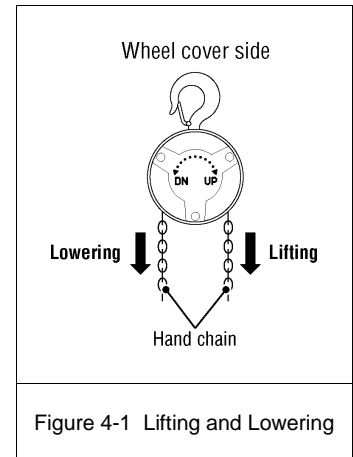

Figure 4-1 Lifting and Lowering
4.2.1 Refer to the arrows and text on the hand wheel cover – see Figure 4-1.